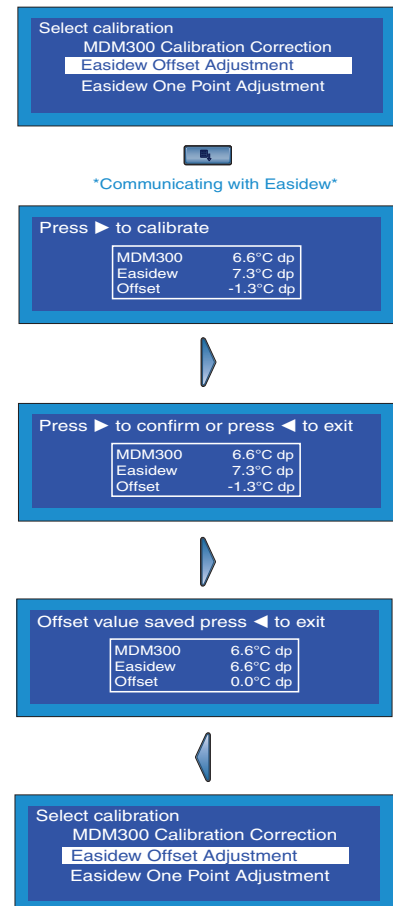

Figure 35 Easidew Offset Adjustment
4. The offset adjustment screen is now displayed which reports the size of the offset (1.1°Cdp) between the readings of the MDM300 and the external transmitter at the applied dew point as shown in *Figure 35*.